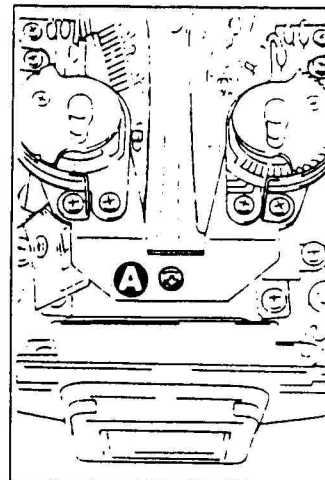

Fig. 3
Note : The screw ④ which fasten the dial substrate sometimes pierces the prism and can break it. So, be careful for the length of the screw. (See Fig. 3.)